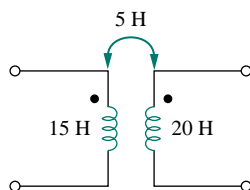

Figure 13.92 For Prob. 13.23.
- 13.23** For the circuit in Fig. 13.92, find: